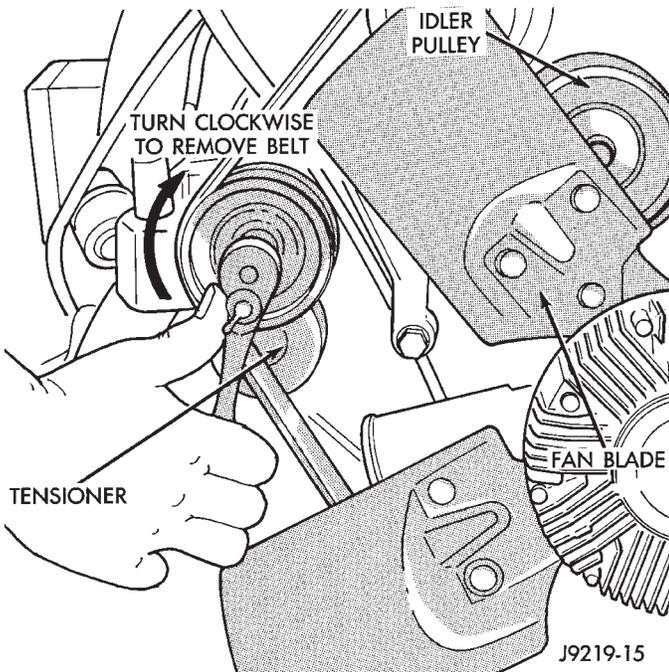

Fig. 65 Belt Tensioner—5.2/5.9L Engines
Drive belts on the 5.2/5.9L engines are equipped with a spring loaded automatic belt tensioner (Fig. 65).
- (1) Attach a socket/wrench to pulley mounting bolt of automatic belt tensioner (Fig. 65).
- (2) Rotate tensioner assembly clockwise (as viewed from front) until tension has been relieved from belt.
- (3) Remove belt from idler pulley first.
- (4) Remove belt from vehicle.
(1) Position drive belt over all pulleys **except** idler pulley. This pulley is located between generator and A/C compressor.
(2) Attach a socket/wrench to pulley mounting bolt of automatic tensioner (Fig. 65).
(3) Rotate socket/wrench clockwise. Place belt over idler pulley. Let tensioner rotate back into place. Remove wrench. Be sure belt is properly seated on all pulleys.